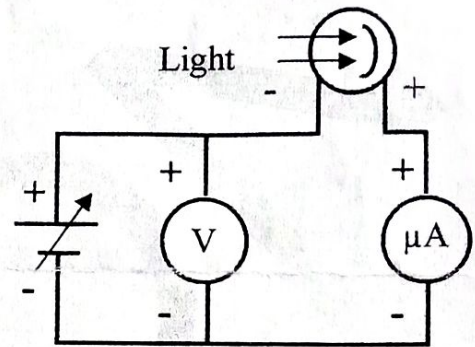

Fig.1
An electron in a metal can be modeled as a particle in an average potential well due to the net attraction and repulsion of protons and electrons. The minimum depth that an electron is located in the potential well is called the work function of the metal, Φ (see Fig. 1). In other words, it is a measure of the amount of work that must be done on the electrons (located in the well) to make it free from the metal. Since different metal atoms have different number of protons, it is reasonable to assume that the work function (Φ) depends on the metal. This is also supported by the fact that different metals have different values for electrical properties that should depend on the electron binding including conductivity. The electron in the potential well of a metal is shown below in Fig. 1. It is analogous to a marble trapped in a water-well. The shallower the well (i.e. the lower the work function " Φ "), less is the energy required to cause the emission of the electron. If we shine a light with sufficient energy then an electron is emitted.
1. Make the connections as shown in fig1 and switch on the main unit.